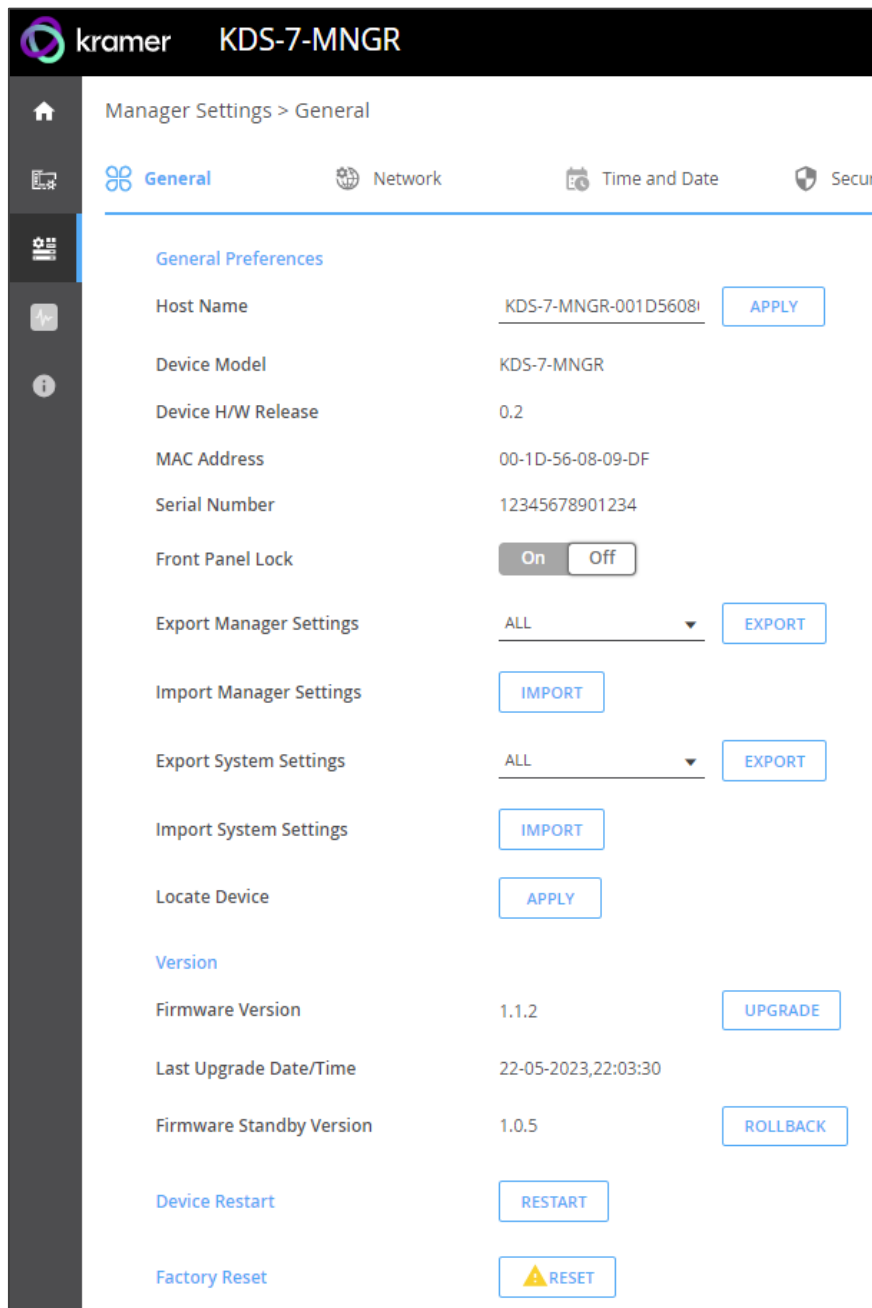

Figure 49: KDS-7-MNGR Manager Settings – General Page
1. Select **Manager Settings**. The General tab in the Manager Settings page appears (see Figure 49).
- In the Navigation pane, Select **Manager Settings**. The General tab in the Manager Settings page appears (see Figure 49).